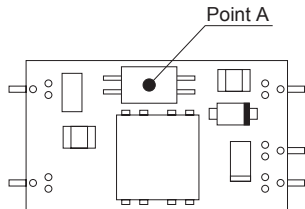

Fig.8.3 Temperature Measuring Point in the case of Forced Air Cooling
(3) Temperature Measuring Points in the case of Forced Air Cooling (1m/s)
① SU1R5
■ In the case of forced air cooling, please have sufficient ventilation to keep the temperature of point A in Fig.8.3 at 105°C or below. Please also make sure that the ambient temperature does not exceed 85°C.